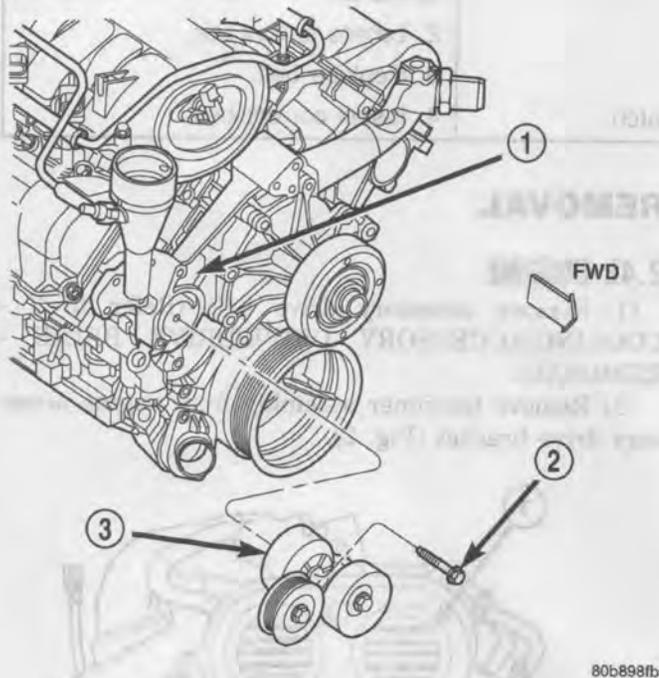

Fig. 3 Automatic Belt Tensioner
(1) Remove accessory drive belt (Refer to 7 - COOLING/ACCESSORY DRIVE/DRIVE BELTS - REMOVAL).
(2) Remove tensioner assembly from engine front cover (Fig. 3).